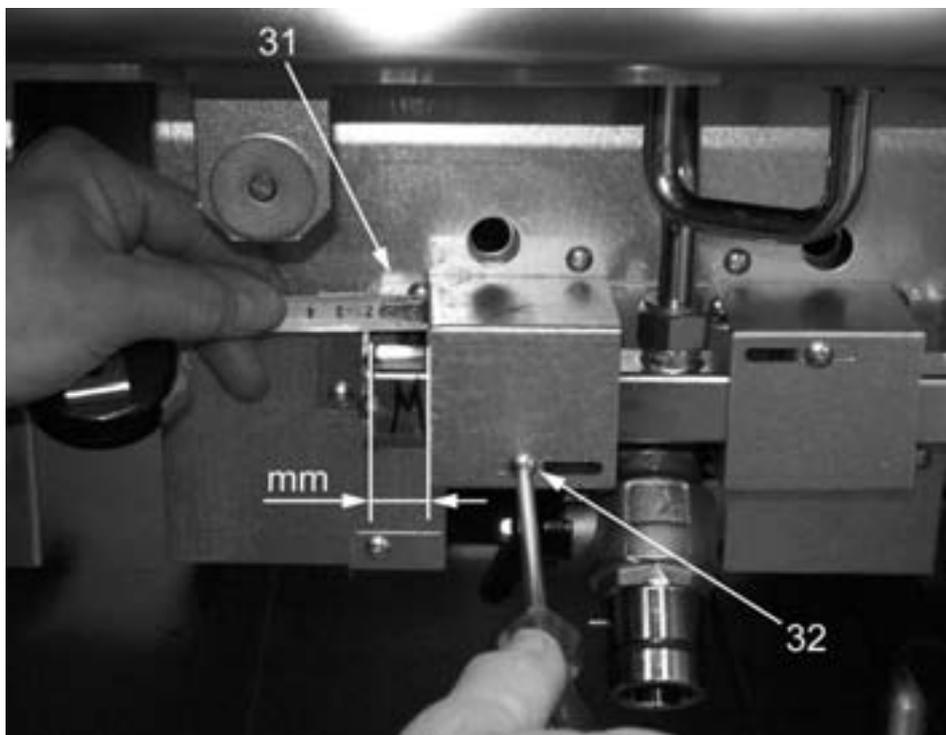

Fig. 15
To adjust primary air (item 31 in Fig. 15), loosen the screw shown in item 32 and move the sleeve until you obtain the values indicated in "Table 2: burner specifications".